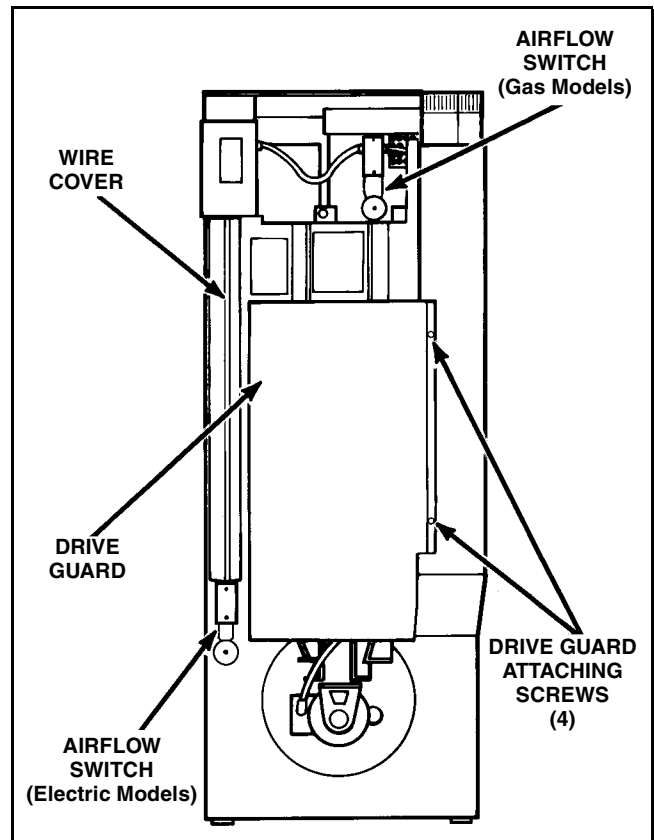

Figure 28
(Figure 28)
(*Figure 28*)
- Support drive guard and remove screws holding guard to rear of tumbler. Refer to *Figure 28*.
- a. Support drive guard and remove screws holding guard to rear of tumbler. Refer to *Figure 28*.